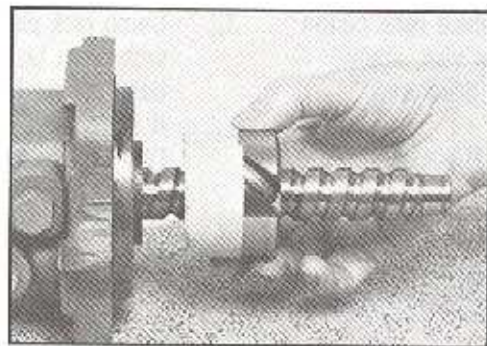

Figure 135
27. Carefully rotate the ball nut (25A) assembly for its full travel, while checking for binding and assuring that all 28 balls are in the correct closed recirculating path or loop. SEE FIGURE 135.